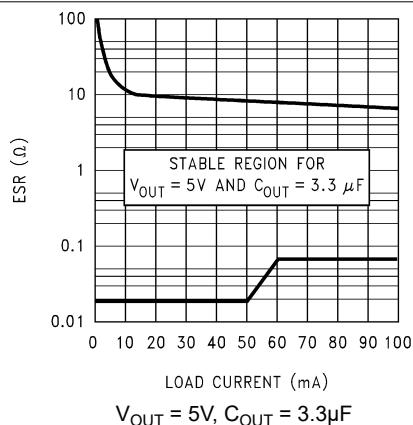
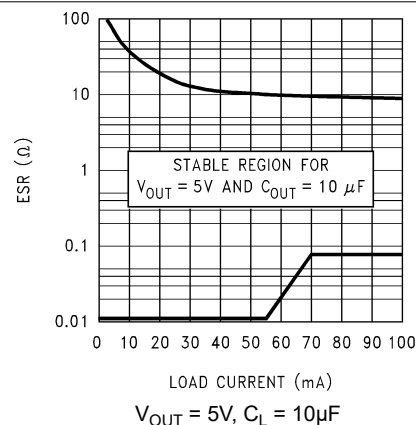
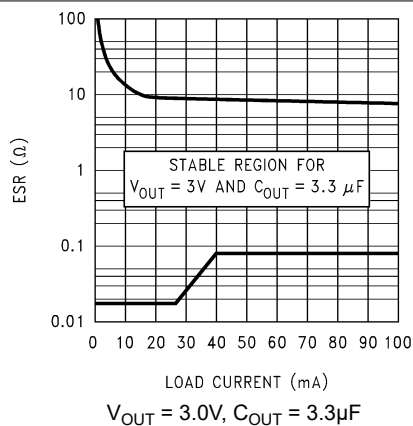

Figure 7-3. 5V, 3.3 μ F ESR Curves (Legacy Chip)
Figure 7-4. 5V, 10 μ F ESR Curves (Legacy Chip)
Figure 7-5. 3.0V, 3.3 μ F ESR Curves (Legacy Chip)
The output capacitor must meet both the requirement for minimum amount of capacitance and equivalent series resistance (ESR) value. Curves are provided that show the allowable ESR range as a function of load current for various output voltages and capacitor values (see Figure 7-3, Figure 7-4, Figure 7-5, and Figure 7-6).
- ESR range: See Figure 7-3, Figure 7-4, Figure 7-5, and Figure 7-6.